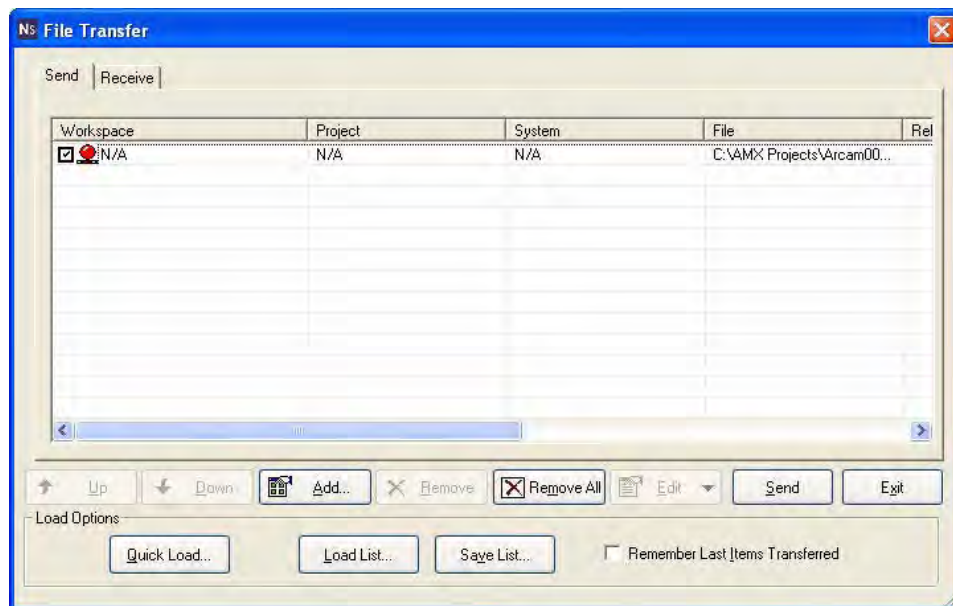

FIG. 59 File Transfer dialog (NetLinX Studio)
8. Click **OK** to close the *Select Files For File Transfer* dialog, and return to the *File Transfer* dialog. The IR file should now appear in the Files To Send queue (FIG. 59).